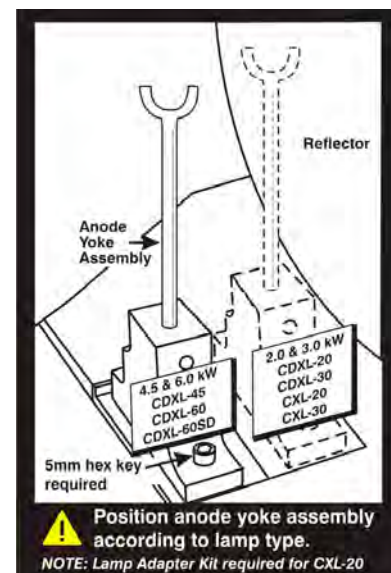

Figure 4-4 Lamp Yoke Position
- Check that the anode yoke (lamp yoke) is in the correct position. (Figure 4-4)